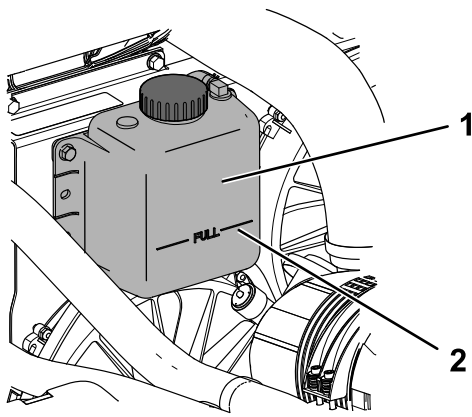

Figure 72
4. Check the coolant level in the expansion tank (Figure 72).